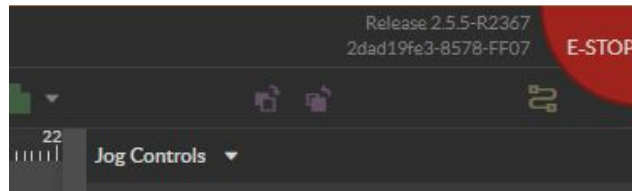

Fig. 16
2. On Retina go to the top right section of your browser and locate the jog Controls.(See Fig.16)